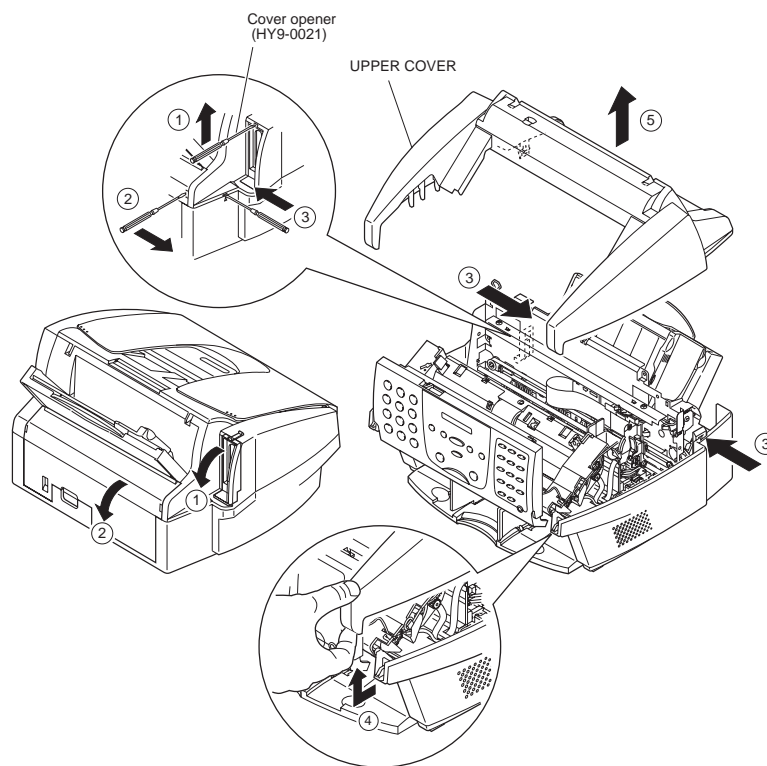

Figure 1-23 Opening the Upper Cover
- When detaching the upper cover, be sure to free it from the lower cover by pulling its front toward the front after freeing the claw with the tool. For details, see the *Figure 1-23 Opening the Upper Cover*.